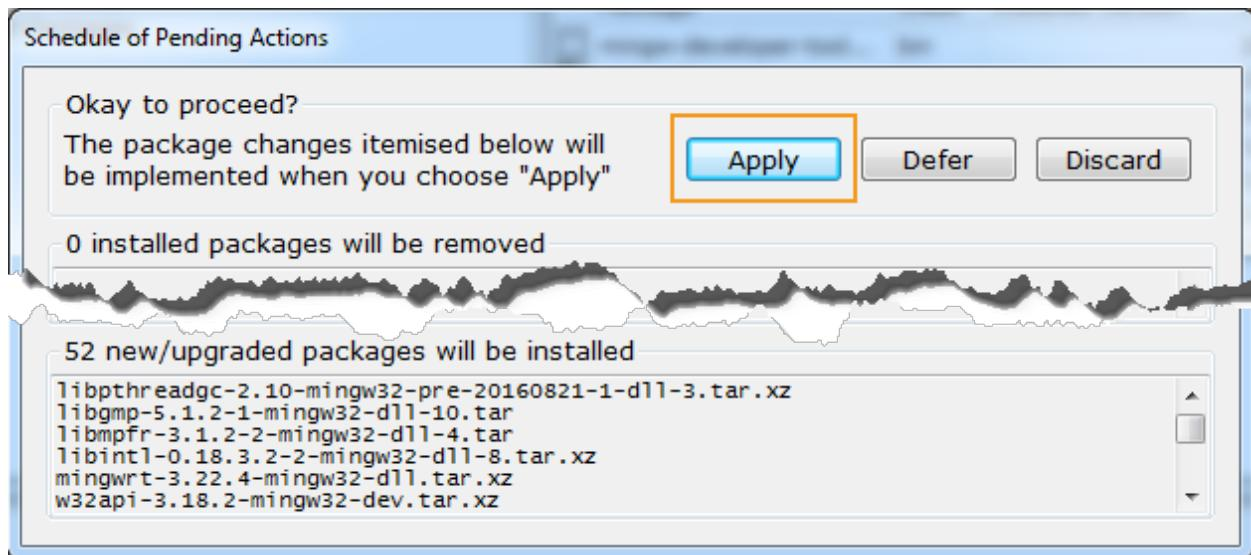

Figure 39. Schedule of pending actions
- 7) Click **Apply** on the pop-up dialog window (see Figure 39).